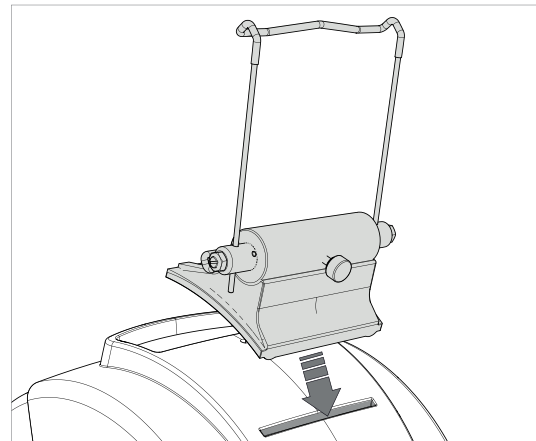

Fig. 13
- 3) Install the tablet stand so that the special profile fits into the slot on the machine cover (Fig. 13).